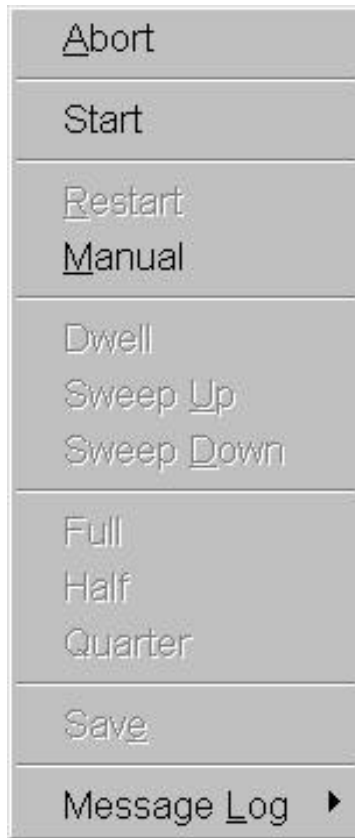

Figure 6-2. Test Menu Options After Parameter Input Before Start of Test
10. Test parameters have manually been input for all required phases of the test. After the test has started, the menu options change. Those available are shown in Figure 6-3. The **S**TART option changes to read **S**TOP. After the test is completed the options in Figure 6-2 are available.